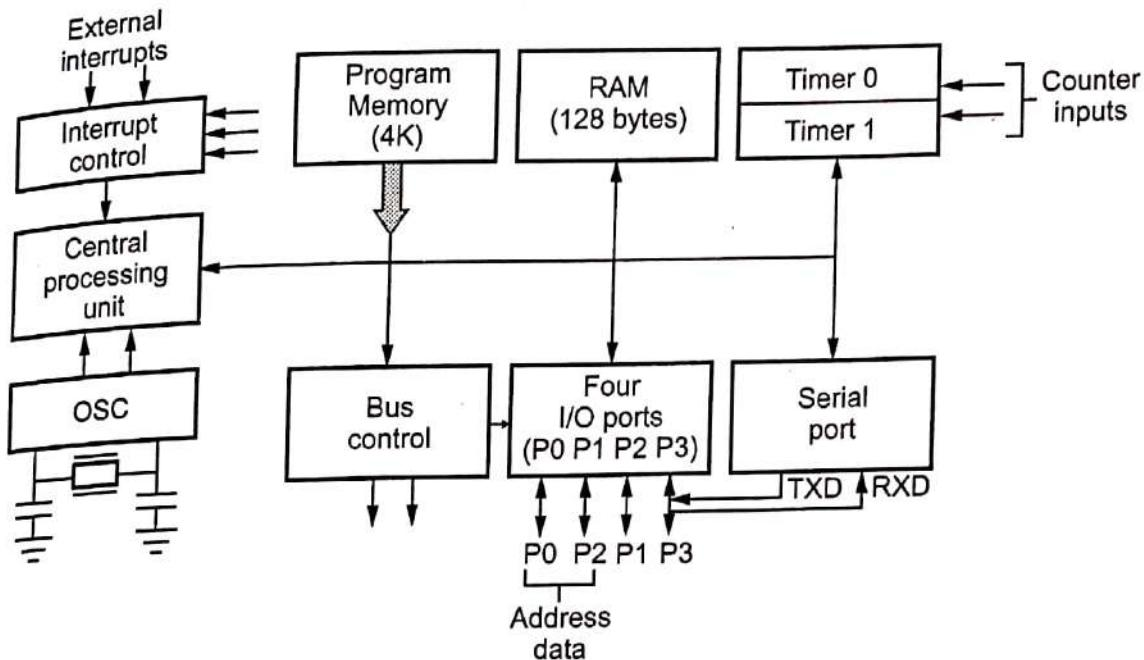

Fig. 2.4.1 : Architectural layout of 8051 microcontroller
- Fig. 2.4.1 shows block diagram of 8051.